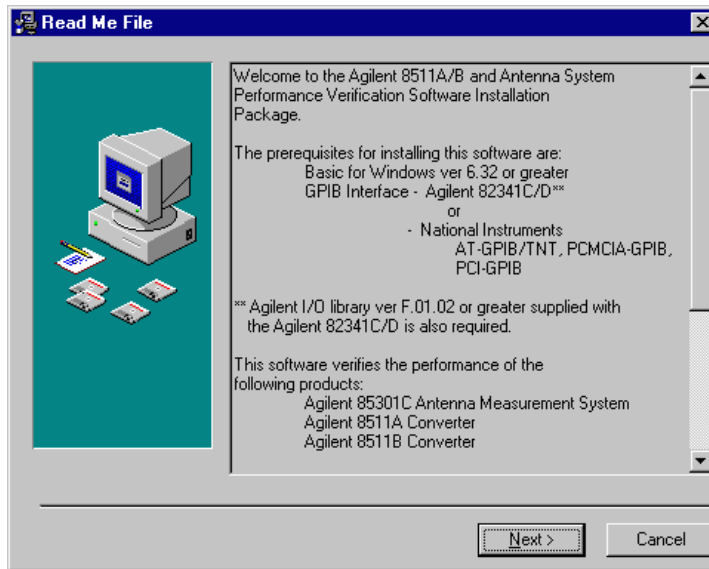

Figure 3 *Read Me File Window*
7. The **Read Me File** window is displayed. This window provides information about test system requirements and types of products verified by this software. Read the system requirement notes then click **Next>** to continue. See Figure 3.